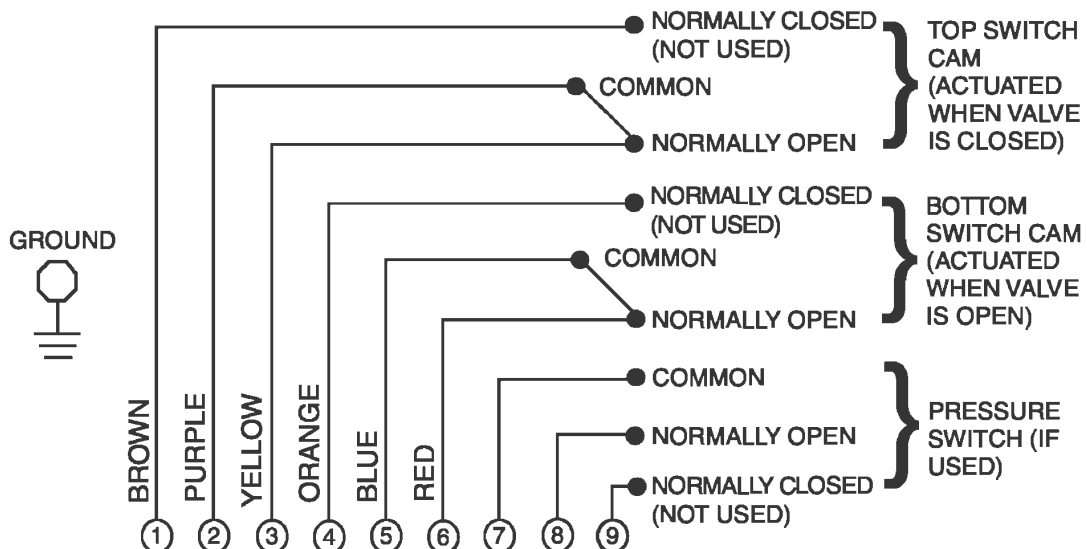

Fig. 2
3. The proper wiring diagram for the standard (2SPDT Switches) Trak-Lok limit switch is shown in Fig. 2. The numbers shown in the figure match the numbers on the limit switch terminal strip. To integrate the wiring diagram with the Butterfly Valve controls, consult the drawings in the following section.